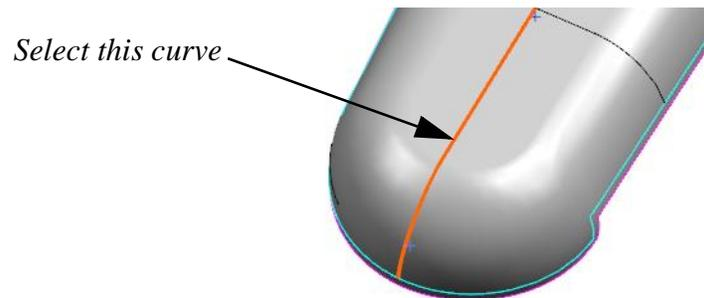

Figure 4–14
- Click . The Fibersim - Splice Ply dialog box updates with the selected curve as shown in Figure 4–15.